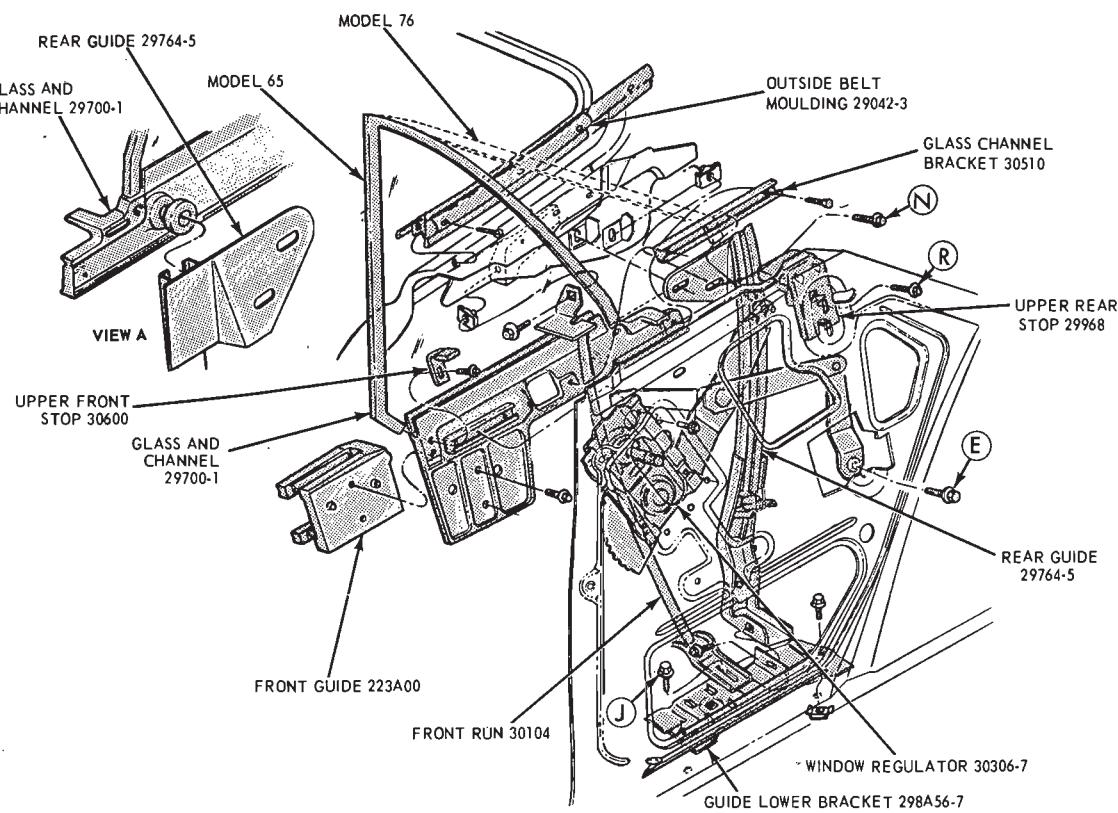

FIG. 11—Quarter Window Glass Mechanism—Lincoln Continental, Ford, Mercury and Meteor Models 65 and 76
2. Remove the seal from the quarter pillar at the belt line (Fig. 11).
4. Remove the lower stop from the rear guide (Fig. 11).
7. Remove the upper front and upper rear stops (Fig. 11).
5. Position the window regulator equalizer arm to the inner panel and install the attaching screw (Fig. 11).